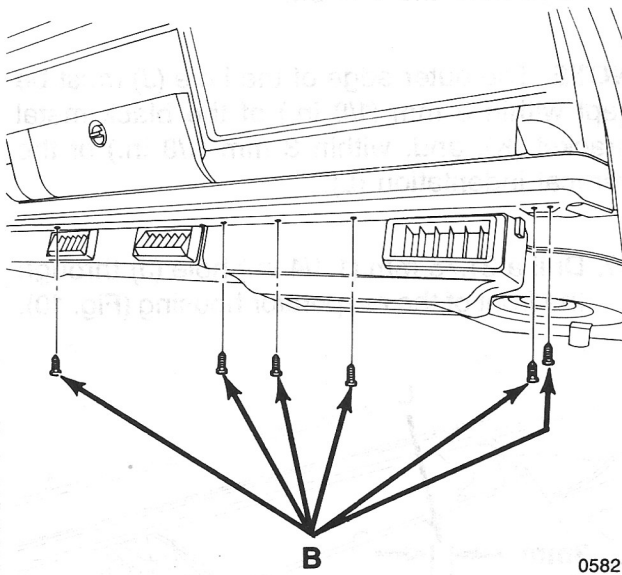

Fig. 4
2. Remove the lower evaporator housing mounting screws (B) (Fig. 4).